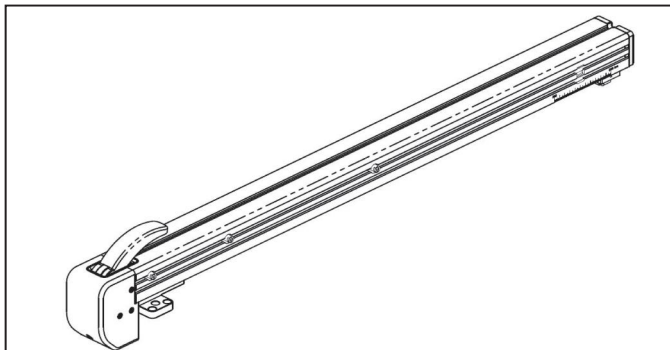

Fig. 9-2
- (1) Obtain a new bearing **6003-2Z (GB/T 276)**.
- (2) Perform the procedure outlined in chapter 7.1 (1) to remove the fence body, as shown in **Fig. 9-2**.